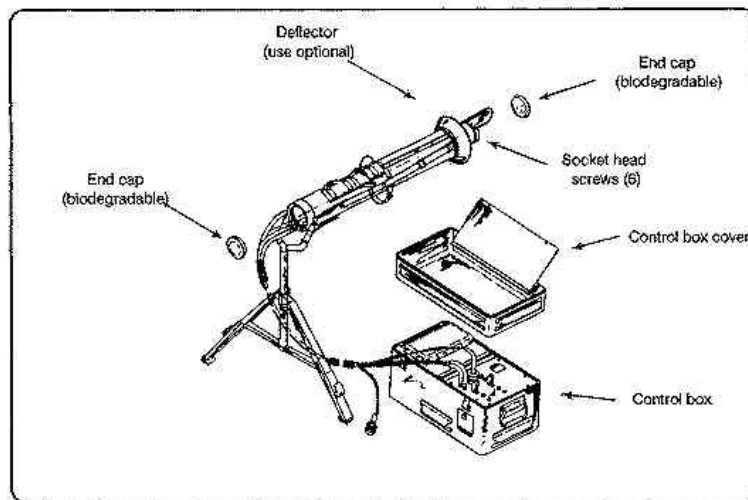

Figure 6-10. LES components.
The LES is about the same size, shape, and weight as the tactical round and simulates its launch environment. (See Figure 6-10.) The LES uses a combination of MAPP gas, oxygen, and biodegradable end caps to produce a realistic simulation of the Dragon launch. The LES launcher is shipped with a blast deflector, which should be installed on the rear of the launcher. The blast deflector causes the rear of the launcher to rise during the firing sequence. This simulates the shoulder weight loss experienced when launching a missile.
- c. The LES control box (Figure 6-10) case assembly consists of two sections. The top section (cover) provides hose and cable storage space. The bottom section (base) contains the LES control panel, electronics assembly, battery pack, and MAPP gas and oxygen bottles and their respective regulators.